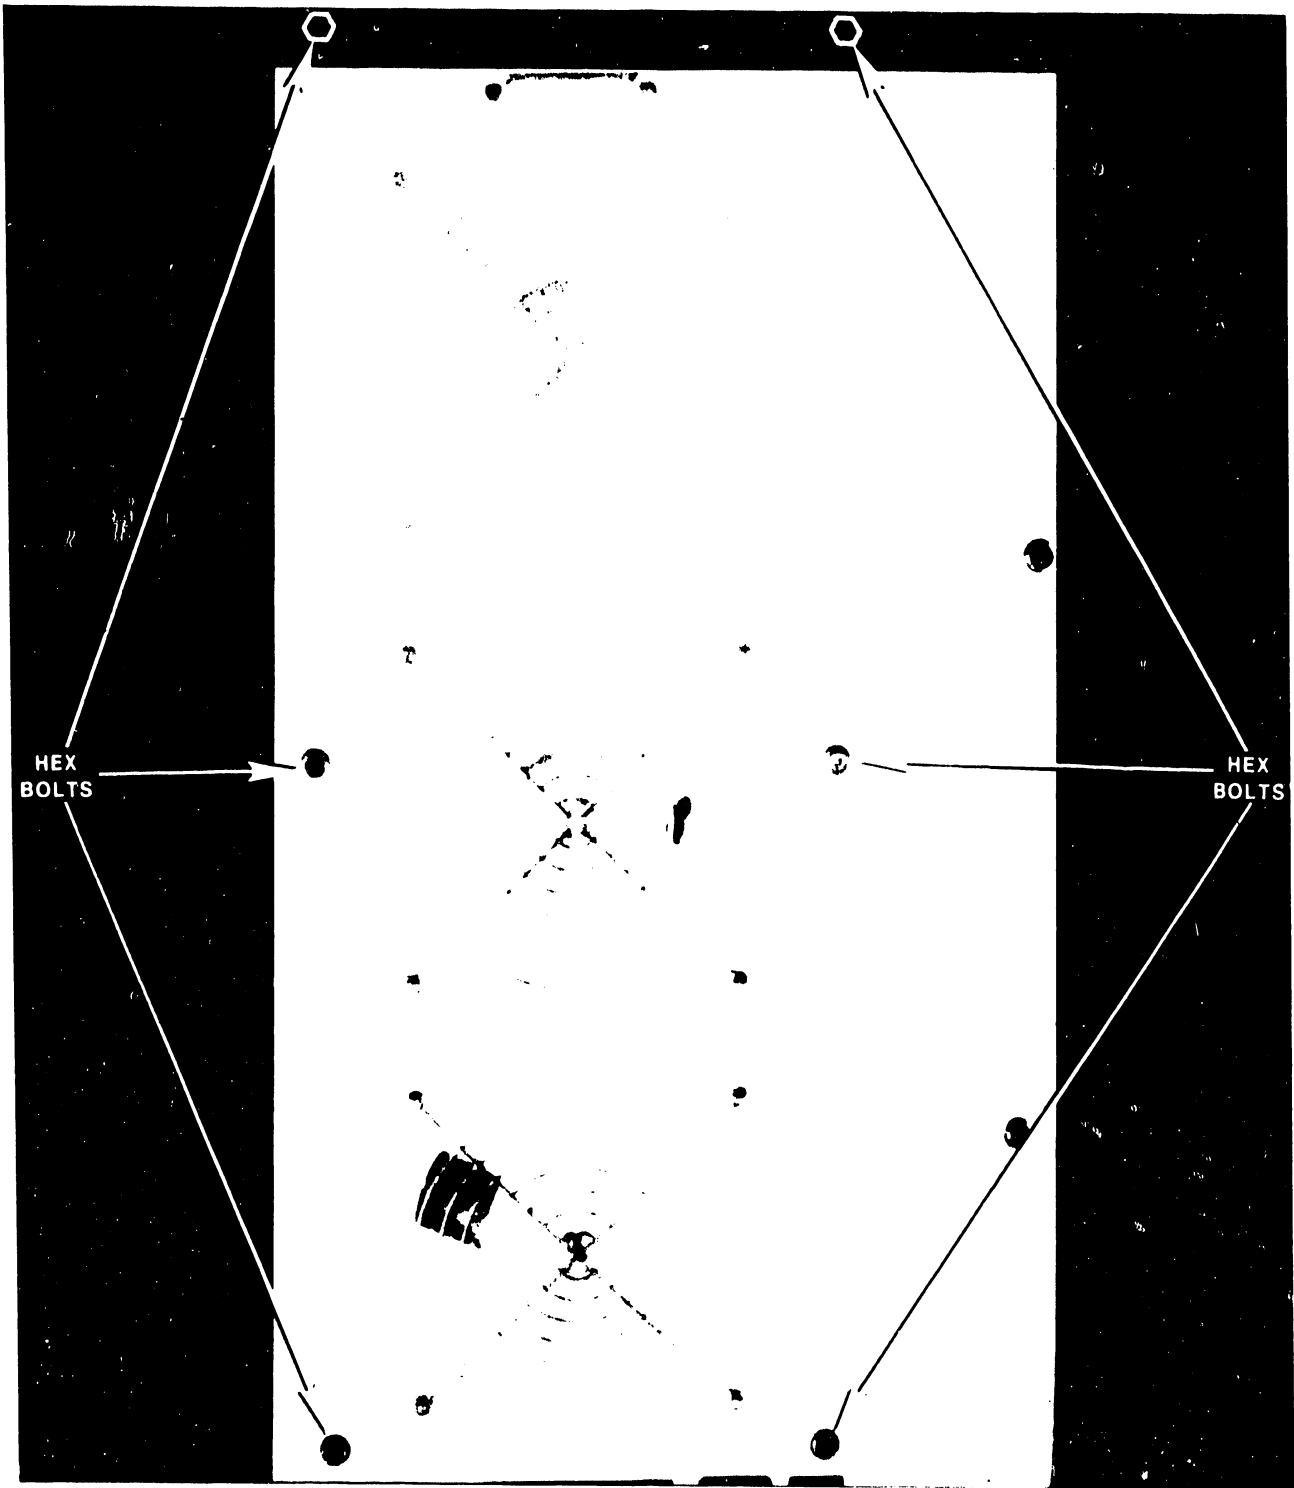

Figure 5-31. Fan Panel Assembly
8. Remove the 6 hex bolts holding the fan panel assembly to the back panel. (Figure 5-31.)